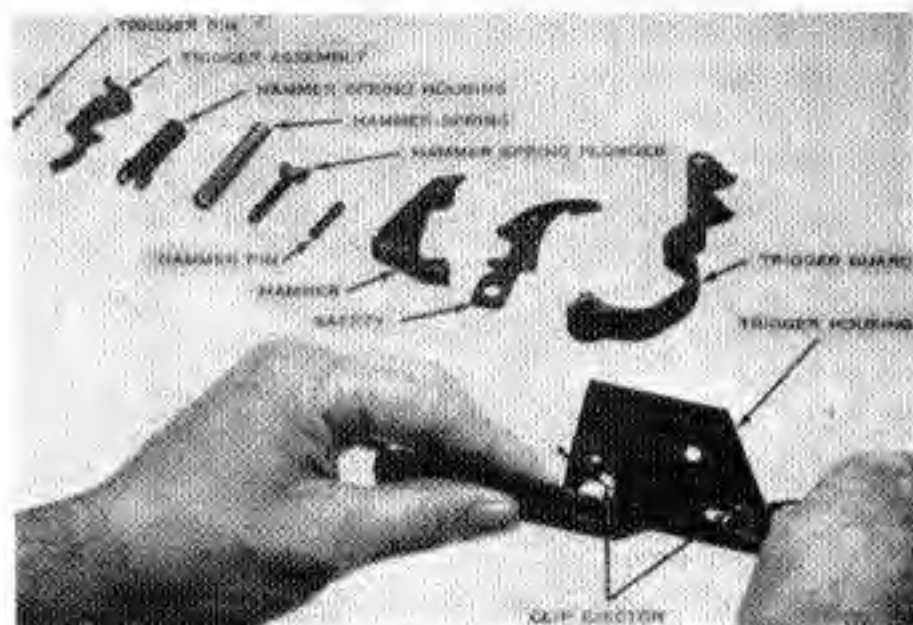

Fig. 77. Removing the clip ejector, other parts shown in order of disassembly.
(6) Hold the trigger housing in your left hand as shown in Fig. 77, resting on a solid surface. Using the tip of a cartridge, apply pressure on the clip ejector through its dismount hole and unseat it from its stud.